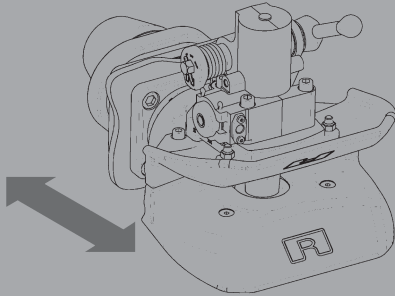

Fig. 6
- Move coupling head (not funnel) vigorously in direction of travel when unhitched (see Fig. 6):